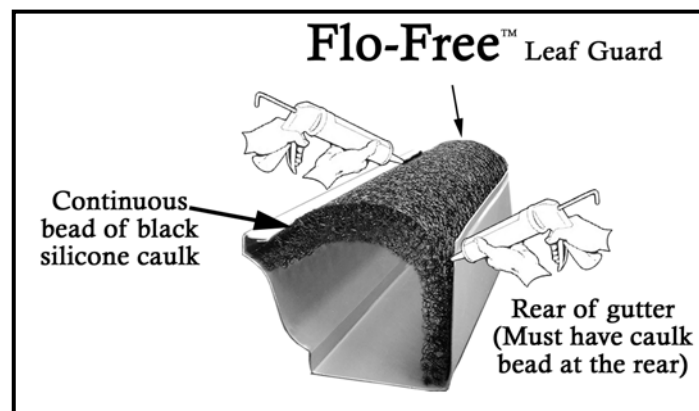
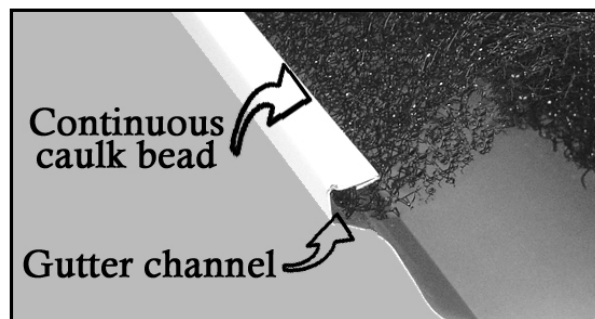

Figure 2 – Side view of Flo-Free installation
Figure 3 – Applying Caulk Bead
the hanging bracket (if necessary). Tuck the front edge of the Flo-Free piece into the channel along the top front edge of the gutter (see figure 2).
E. In order to ensure Flo-Free remains snugly in your gutter, we recommend putting a continuous bead of Ultraseal Adhesive at the rear of the gutter behind the Flo-Free to secure it to the gutter (see fig. 2). Ultraseal should also be applied along the part of the Flo-Free screen that fits under the gutter channel (see figure 3 below). Simply press down on the Flo-Free screen under the gutter channel to create a gap, while you apply the Ultraseal Adhesive.
Install with the smooth side up, applying a bead of Ultraseal Adhesive as per Figure 3.
Install with the smooth side up applying a bead of Ultraseal Adhesive as per Figure 3, however, inside corners should be heavily caulked along the rear edge of the gutter.